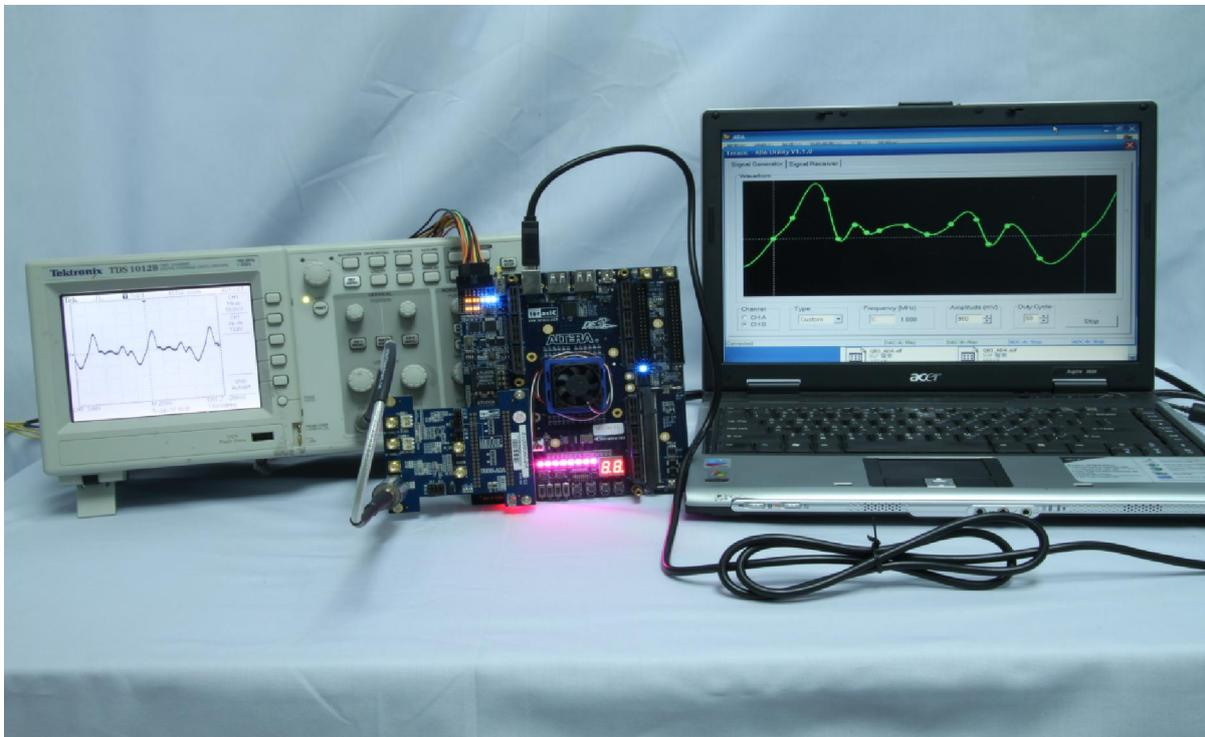

Figure 4-1 Configuration Setup of Random Waveform Generator on DE3
This section illustrates the implementation of random waveform generator using ADA. **Figure 4-1** is the complete setup of an ADA connected on DE3. Simply perform the following steps to display any pattern generated from PC-based GUI on an oscilloscope. The <path> is the directory where you copy the reference design folder, DE3\_ADA, from CD to your PC.
1. Connect the ADA-HSMC to DE3, as shown in **Figure 4-1**.